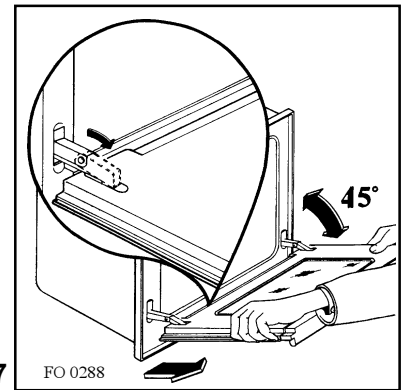

Fig. 7
- b) find the hinges linking the door to the oven (fig 7);
- c) unlock and turn the small levers located on the two hinges (fig. 7);
- e) gently pull the oven door off its site (fig. 7);